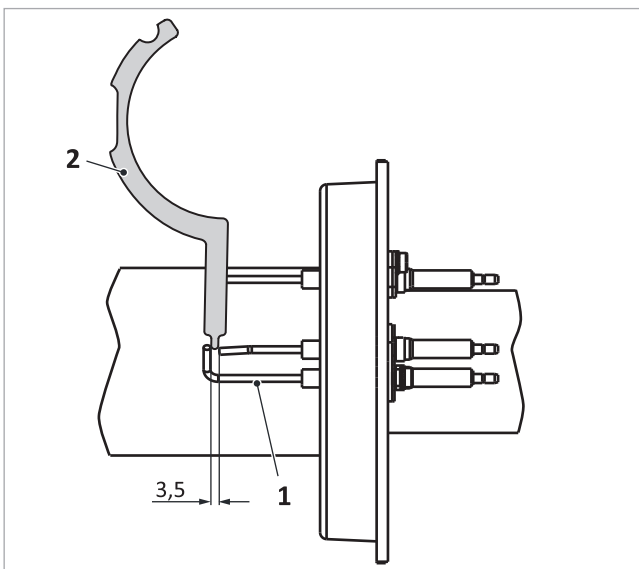

Fig. 33: Clearance from electrode to gauges on the ignition electrode
1. Check the clearance of the ionisation electrode using an electrode gauge → fig. 33 (2) (if necessary, correct it by through careful bending).
- Electrodes below one another → fig. 33 (1): 3.5 mm